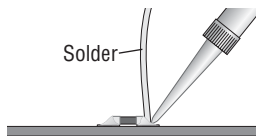

Figure 1.8.
- 5 Fully solder the tacked end of the component to its pad (Figure 1.8).